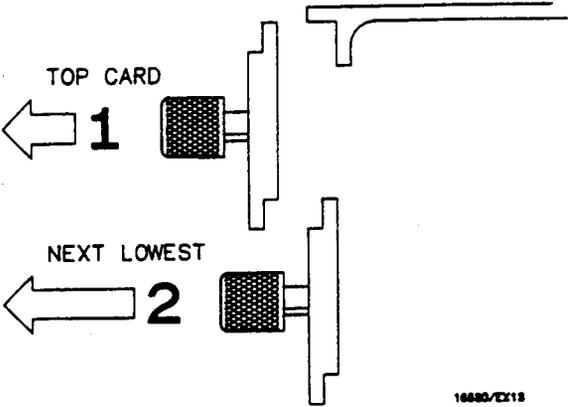

Figure A-1. Endplate Overlap
- c. Starting from the top, begin pulling card(s) and filler panel(s) out half way. See figure A-1.